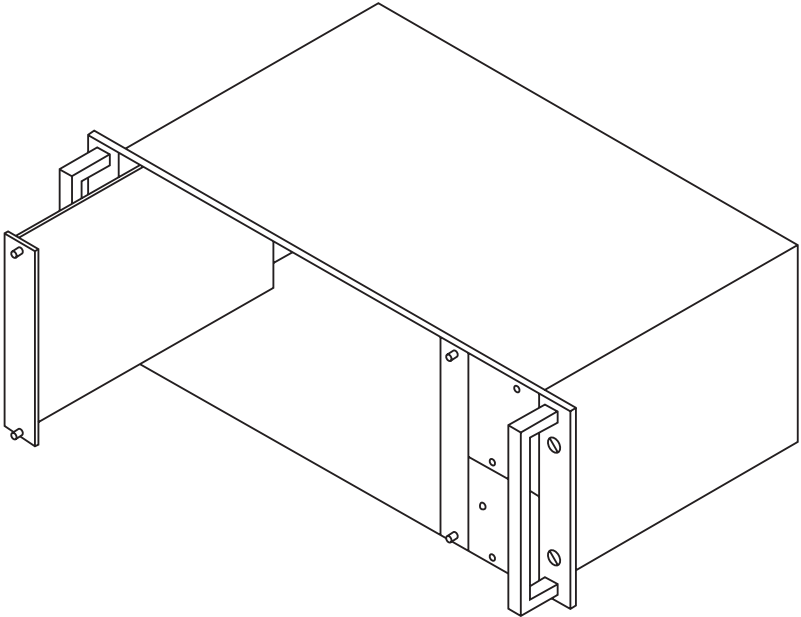
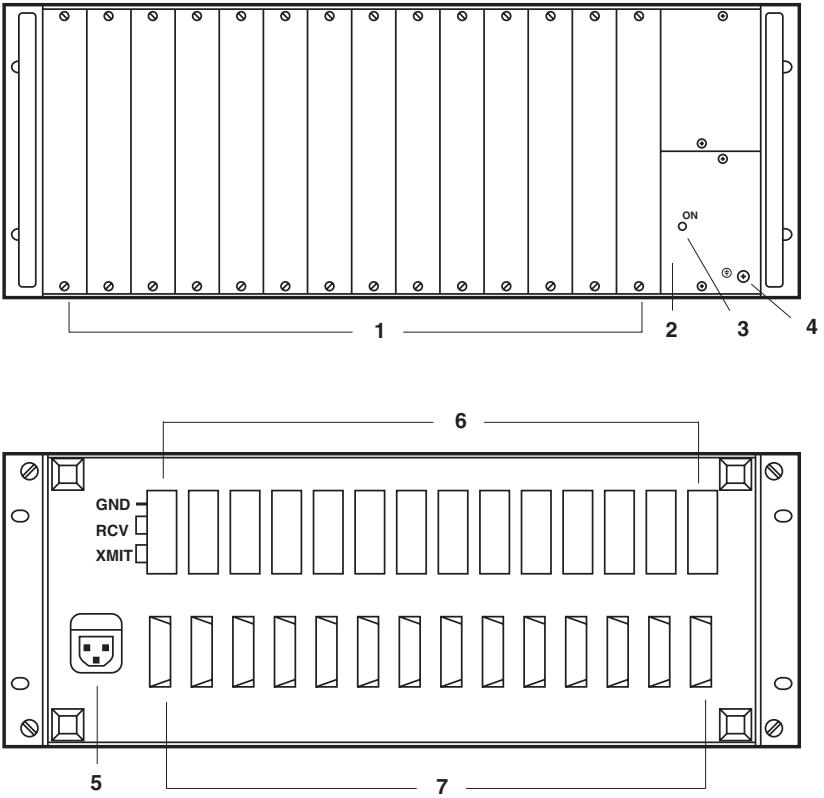

Figure 4-1. The RackNest 2/14: Card installation.
Figure 4-2. The RackNest 2/14 illustrated.
The RackNest 2/14 is a special 19" rack component designed to host a number of our short-haul modems and line drivers. As shown in Figures 4-1 (on page 30) and 4-2 (on page 31), it consists of a rack chassis (with one or two power supplies) into which you can plug as many as 14 modem or driver cards.
You will be installing the LDM-MR19.2 card in the RackNest 2/14 as shown in Figure 4-1 below. The front and rear panels of the Nest are shown in **Figure 4-2** on the next page; the numbered connectors, controls, and indicators are described in Table 4-1 on page 32.
Before putting the LDM-19.2 card in the RackNest 2/14 or attaching anything to the Card, determine which data rate you're going to use and how you want to set all of the other user-configurable options on the Card. (Refer to Table 4-2 on the next two pages for a list of all of these options; the SW_n and J_n numbers in the table's "Element" column correspond to the locations with the same numbers in Figure 4-1 on page 36.)
When you have everything at least tentatively decided, identify the control(s) on the Card whose settings you want to change (refer to Figure 4-1), then move the control(s) to your desired position(s).
1. Insert the Card into an empty slot on the Nest (see Figure 4-1 on page 30). Do not use excessive force. If the Card does not go in easily, remove the Card, realign it with the Nest's enclosure guides, and push it into place.